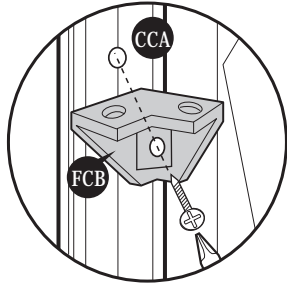
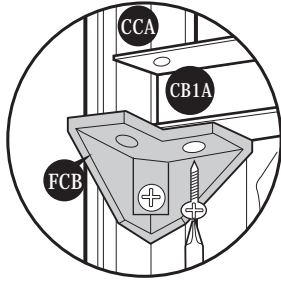

Fig. 1: Use (S2) screws. Fix (FCB) fitting to (CCA). Leave it loose.
Fig. 2: Use (S1) screws. Fix (CB1A) to fitting (FCB)
5. To stabilize the front panel attach center band (CB1A). Start with center band fitting (FCB), fix to corner column (CCA) with (S2) screws. See figures (fig.1) (fig.2) and (fig.3).